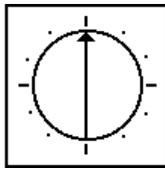

Figure 1. Pot Set At Straight-Up Position
- The pots adjust the biasing, gain, and filtering of signals. The initial setting is the straight-up (12 o'clock) position (see Figure 1). (The limit of rotation is approximately 150 degrees in either direction from the straight-up position.) See Table 3 for a listing of the SPC card's pots, pot descriptions, and default positions.